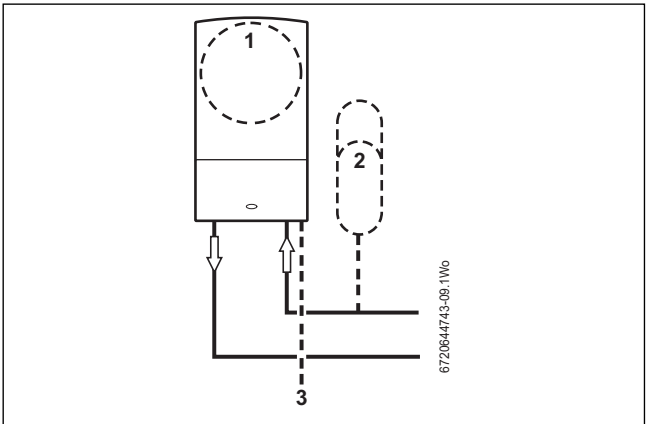

Fig. 6 Additional expansion vessel example
- Where the system volume is more than 100 litres or exceeds 265 kPa at maximum heating temperature, an extra expansion vessel item [2] figure 6 must be fitted as close as possible to the boiler in the central heating return.
- Pressurise the extra expansion vessel item [2] figure 6 to the same value as the expansion vessel built into the boiler.
Key to figure 6: